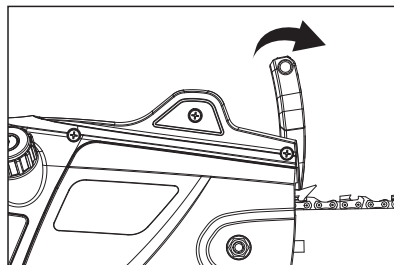

Fig. 5b
- 2). The chain brake in the engaged position, the saw chain is stopped as soon as the chain brake is activated (Fig. 5b).